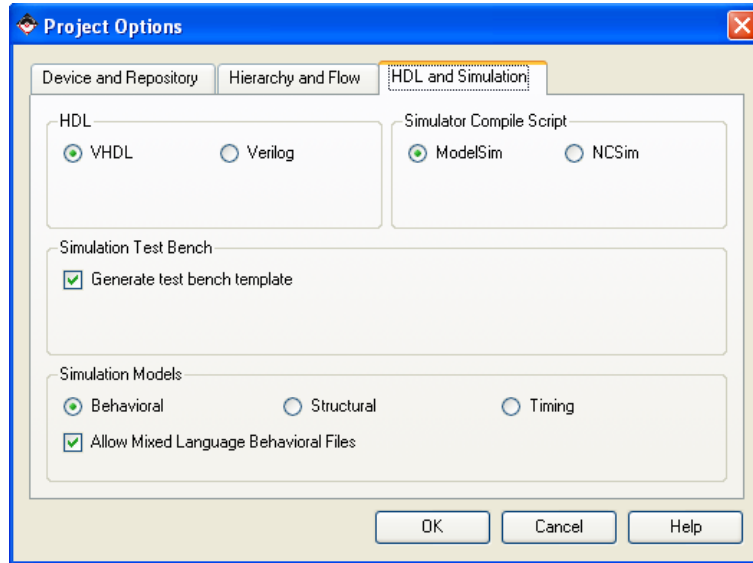

Figure 14: Change Simulation Setting for Behavioral Simulation
- In the EDK main window **Select Project** → **Project Options**. The project options dialog box will be displayed, select the **HDL and Simulation** tab as shown in Figure 14.
- In the **HDL and Simulation** tab do the following selections as shown in Figure 14: